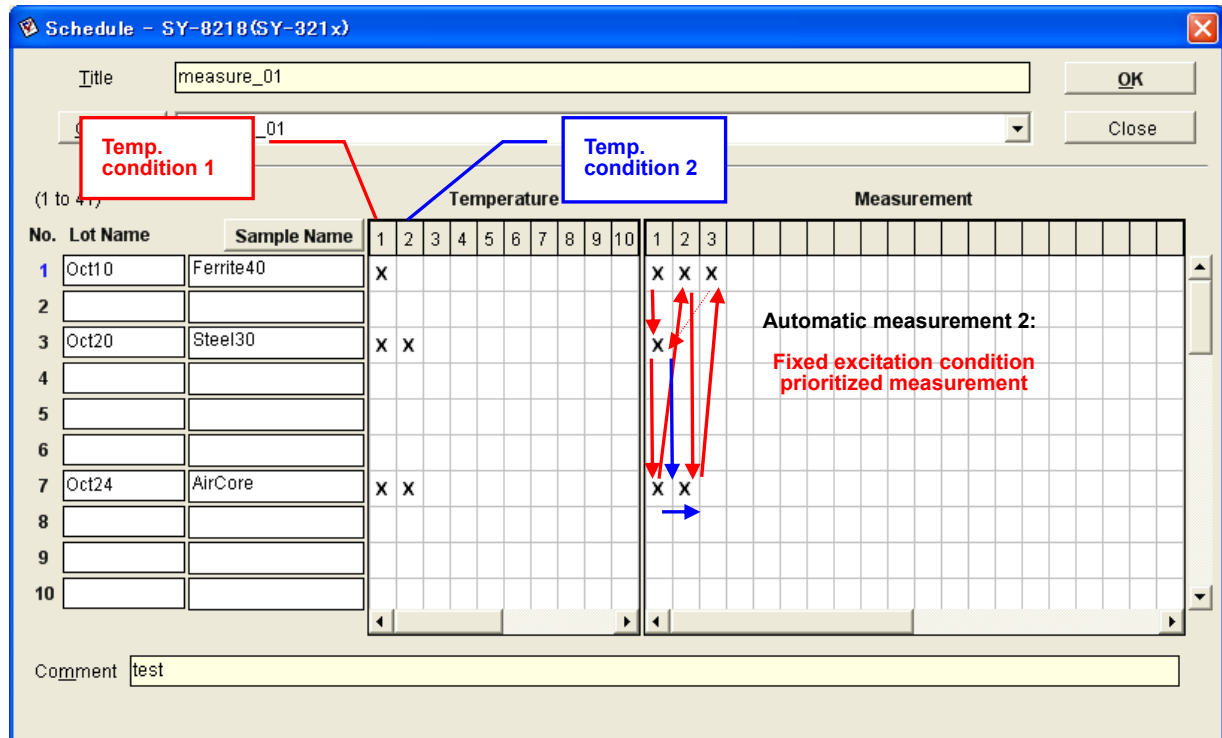

Figure 3-57 Measurement order of automatic measurement 2
- ② Automatic measurement 2 gives priority and measures the excitation condition fixation in the order of Figure 3-57.